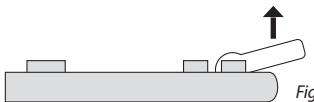

Fig. No. 5
- Once the enclosure is opened, remove the plastic tab inserted between one of the battery terminal and battery slot contact (see Fig. No. 5).